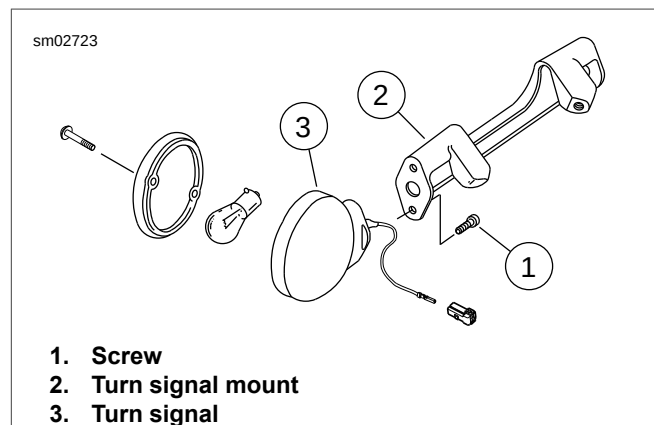

Figure 7-56. Rear Turn Signals: FLSTC
- a. **FLSTC:** see Figure 7-56. Remove the screw (1) to detach turn signal from mount (2).